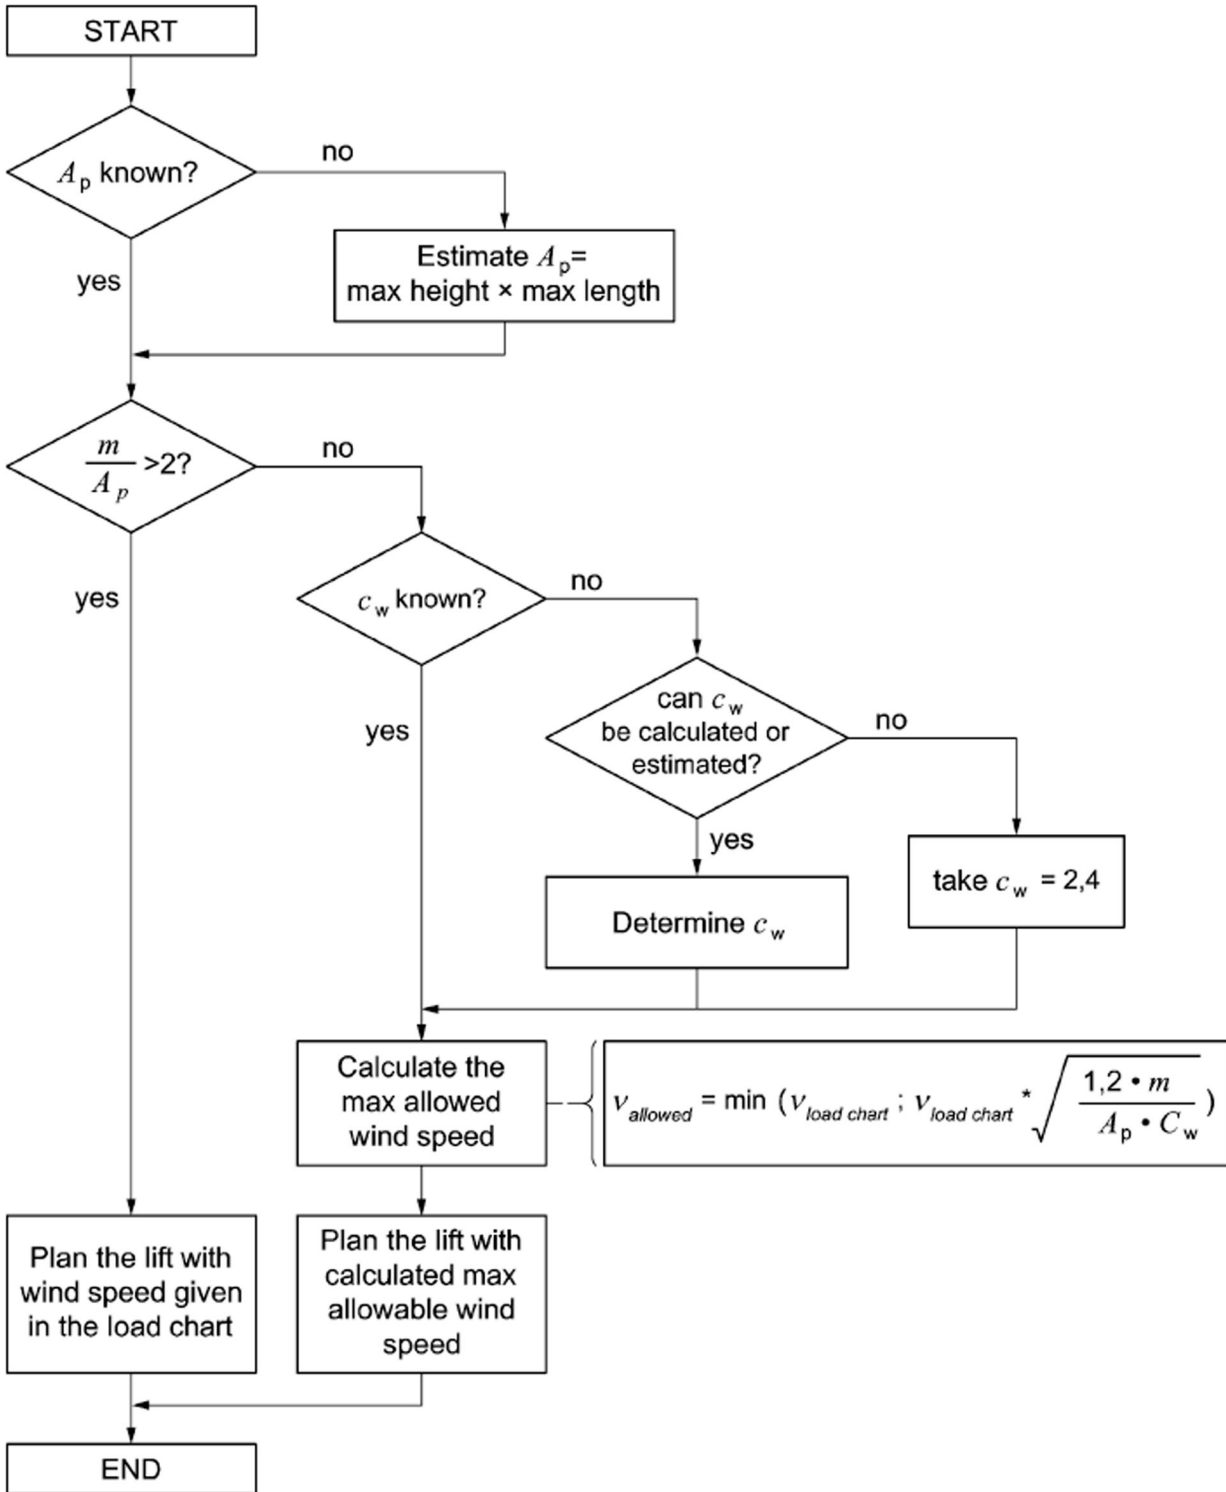

Fig. 723: Simplified method to determine the maximum admissible wind speed in accordance with EN 13000 Appendix N
- ▶ Note that the area exposed to wind of the load considered in the load calculation is 1.2 m²/t (cw value as factor already considered). If the load's area that is exposed to wind is larger: Calculate maximum permissible wind speed (see: fig. 723, page 594) or contact Liebherr customer service. Loads may not be picked up until this evaluation has been performed.